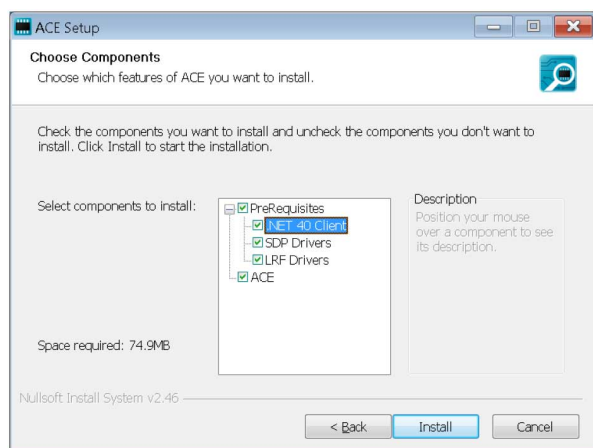

Figure 3. Required Driver Installations with the ACE Software
3. Install the latest version of the ACE software. During installation, ensure that the **.Net 4.0 Client**, **SDP Drivers**, the **LRF Drivers** installations are checked off as well (see Figure 3).